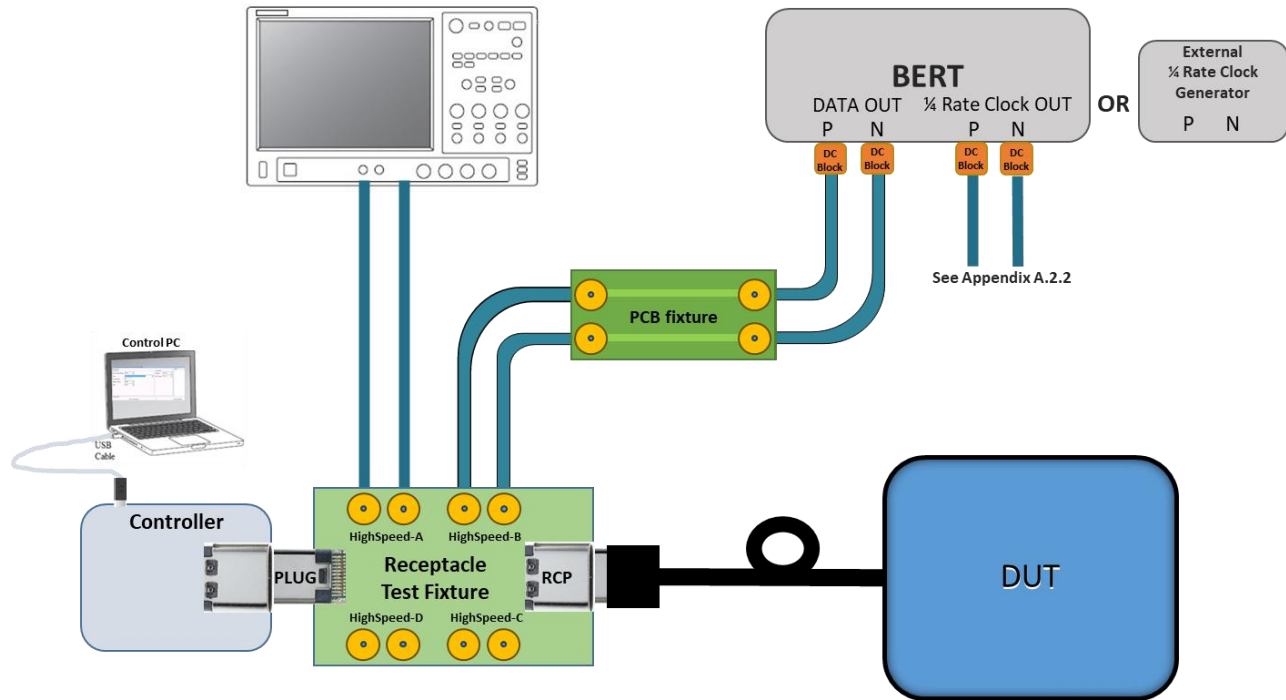

Figure 26. Receiver LFPS Test Setup
Construct setup as shown in Figure 26 below. Use passive cable without Emark to connect USB4 micro-controller to the DUT as shown below. USB4 Micro-controller is connected to Control PC via USB cable, running the latest USB4 SW Electrical Test Tool (ETT)
1. Construct the setup as shown in Figure 26